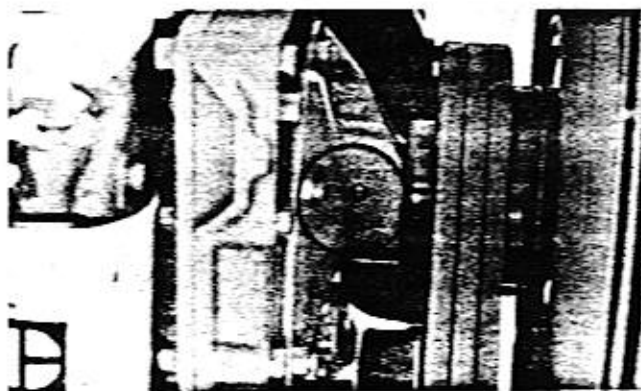

Figure 11-10
To ensure smooth operation of the fan hub lubricate the one (1) fitting with two (2) shots of MPG-EP grease every 300 hours of operation. See Figure 11-10.